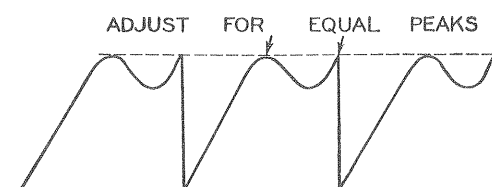

FIG. 3
6. Adjust the horizontal waveform slug (B2) until the broad and narrow peaks are of equal amplitude as shown in Fig. 3.